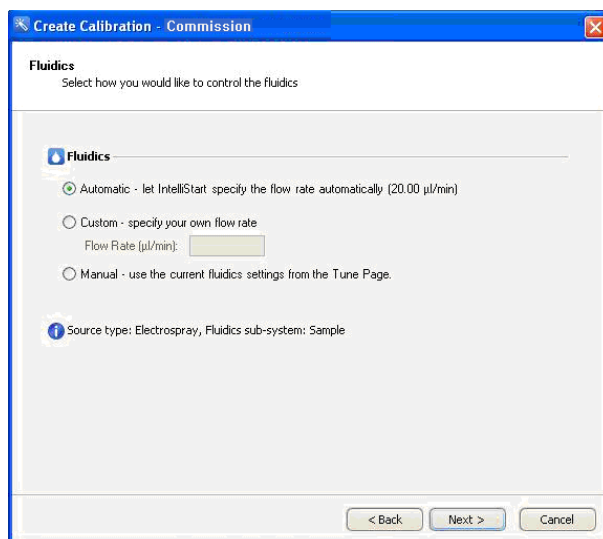

Figure 51 - Commission page
12. Click **Automatic** fluidics control (Figure 51).